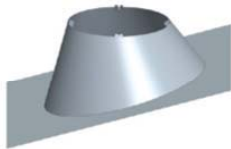

Figure 37 – Adjustable Flashing (F30)
The Adjustable Flashing (F30) is used in conjunction with Storm Collar (SC) for weatherization on a roof with a pitch 5° to 30°. (See **Figure 37**)